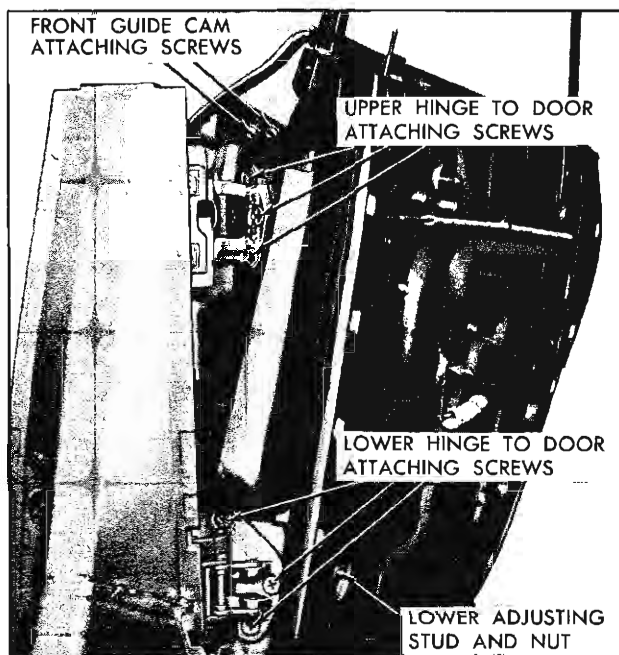

Fig. 47—Rear Door Hinge Attachments
1. For in and out or up and down adjustment, loosen hinge to door pillar attaching screws, adjust door as required and tighten screws (fig. 47).